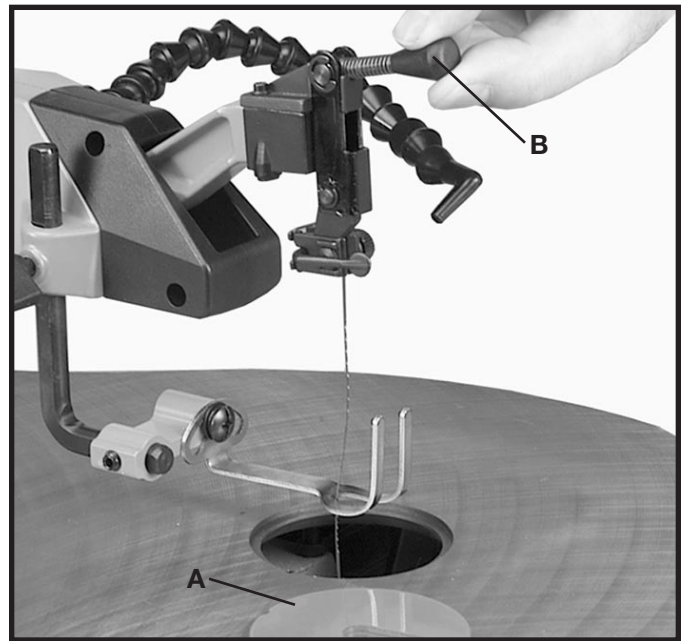

Fig. 22
1. Remove table insert (A) Fig. 22, and release blade tension by pulling tension lever (B) forward, as shown.